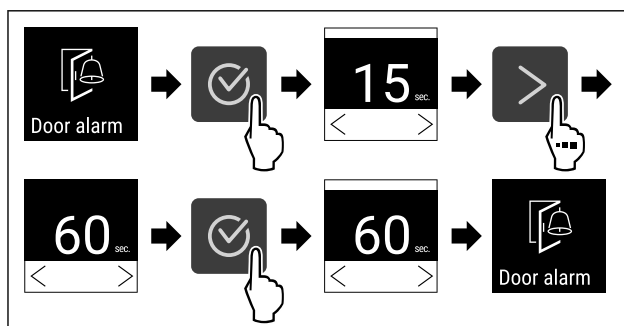

Fig. 95
- ▶ Carry out steps (see Fig. 95) .